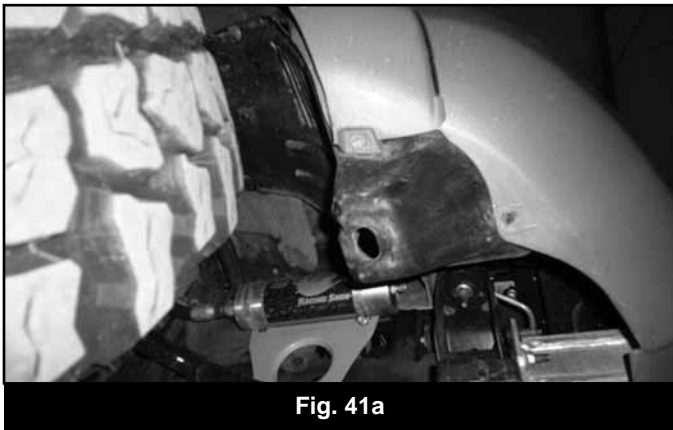

Fig. 41a
92. Remove the inner fender fastener that attaches to the front fascia. Measure 1-1/2" towards the wheel, mark and drill hole to 5/16". Trim off the extra plastic over hanging where the original hole was located. Clearance the inner fender where it meets the front bumper cover to allow enough clearance. (Fig 41a, 41b)